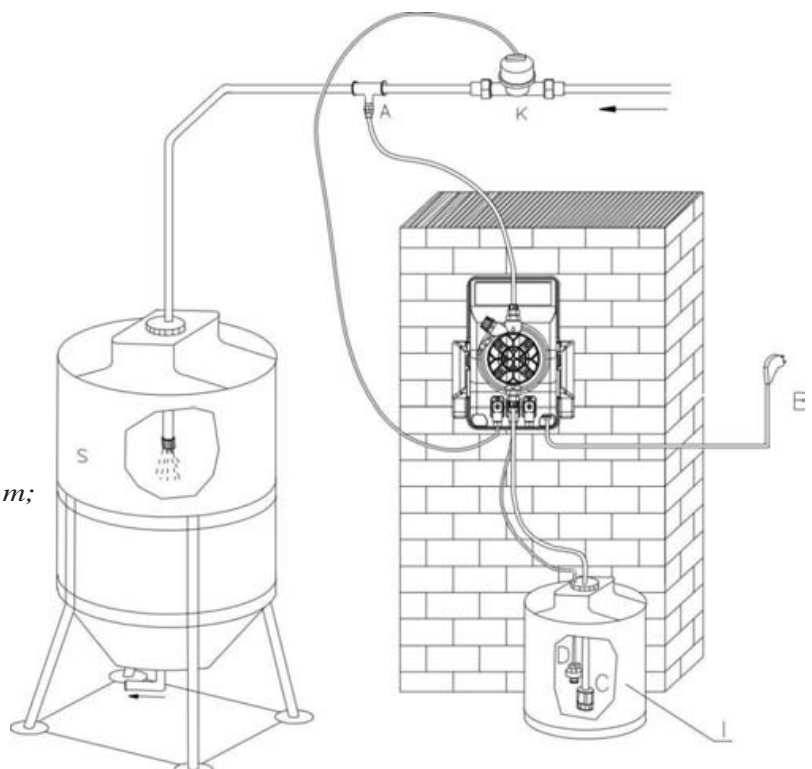

Fig. 19
- 5 - "green" LED 1XN (M) function/water meter
9.2 - TYPICAL INSTALLATION (Fig.19)